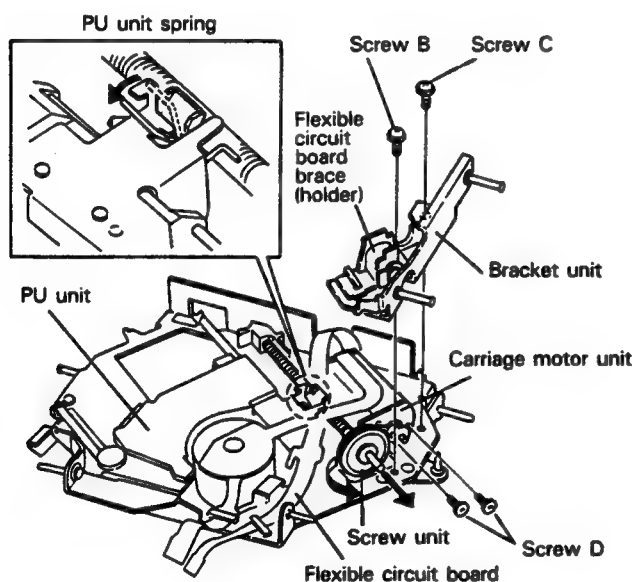

Fig. 4
3. Cock the PU unit spring as shown in Fig. 4 and then move the PU unit to its outermost position. (Cocking the spring disengages the screw unit so that the PU unit can be moved by hand from above.)
1. Cock the PU unit spring as shown in Fig. 4. Move the PU unit to the center of the shaft for easy removal.
2. Cock the PU unit spring as shown in Fig. 4 and move the PU unit to its outermost position.